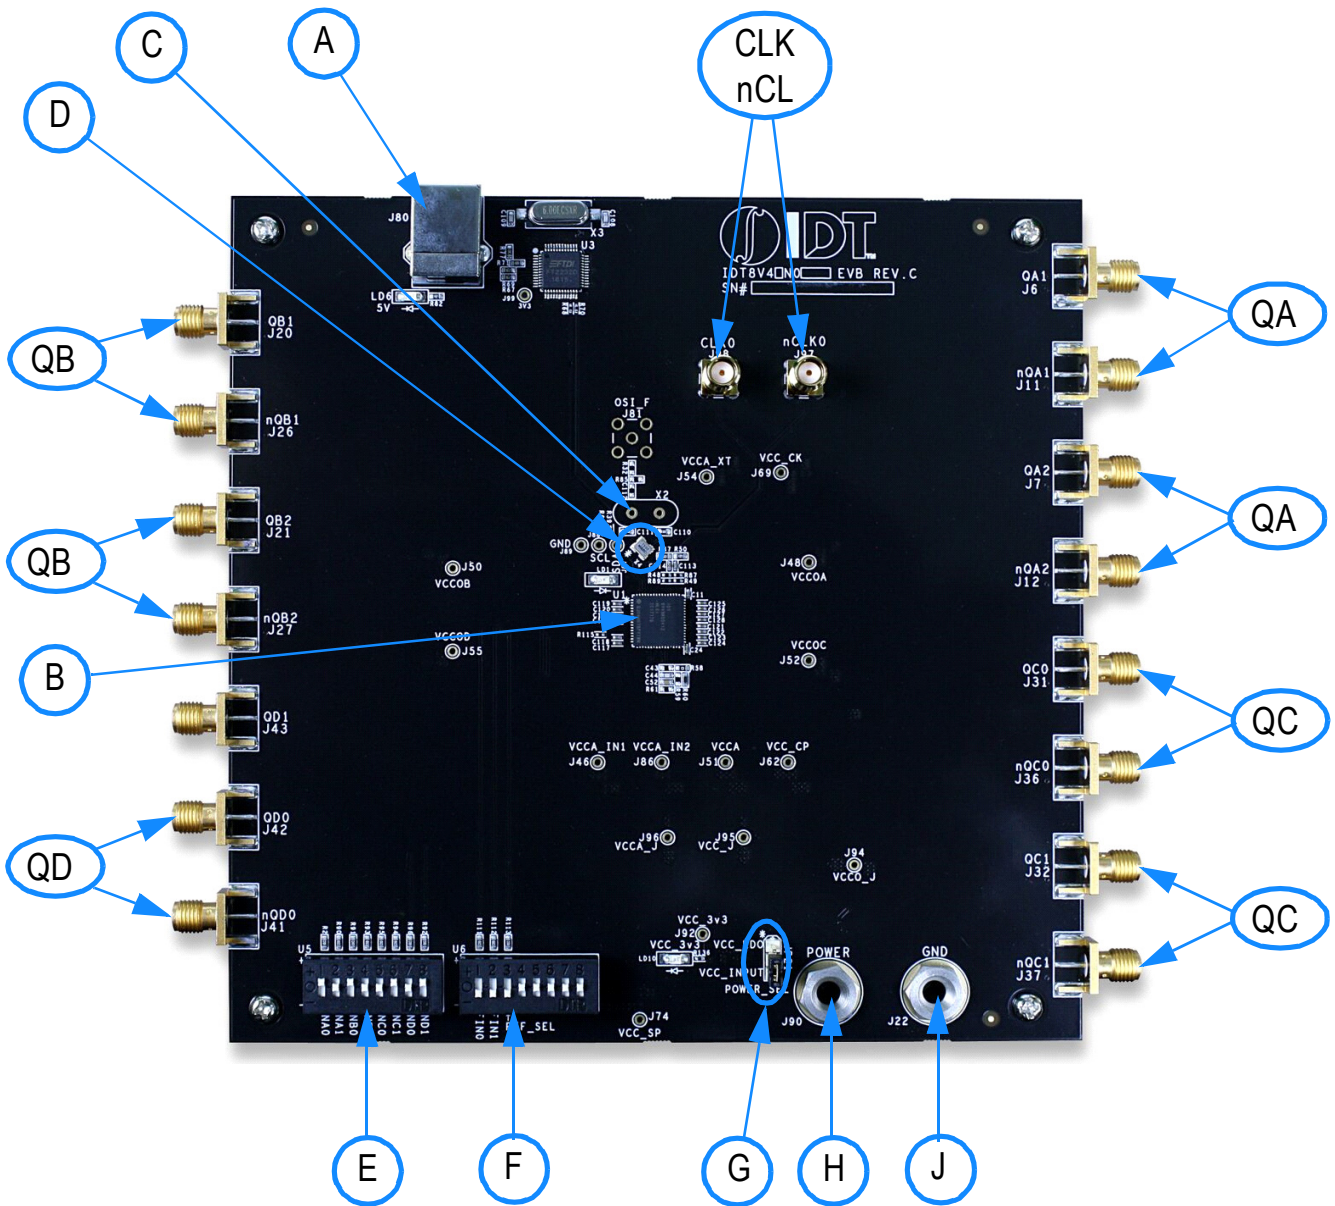

Figure 3. Evaluation Board Overview
4. Set Dip Switch selectors to the positions shows in Figure 3.
The board ships with a 50MHz crystal and with the DIP Switch settings from Figure 3 it will be configured as follows:
The dip switches have three settings: 0V, Float, and VCC. For the location of the dip switches and their default configuration, see Figure 3, labels “E” and “F”.
- a. Remove the crystal from X4 on the top-side of the board (see Figure 3, “X4” for location of the component).
- a. Remove the crystal from X4 (see Figure 3, “X4” for location of the component).
Use Figure 3 and Table 8 to identify: power supply jacks, USB connector, input and output SMA connectors, DIP switches, and other board elements.